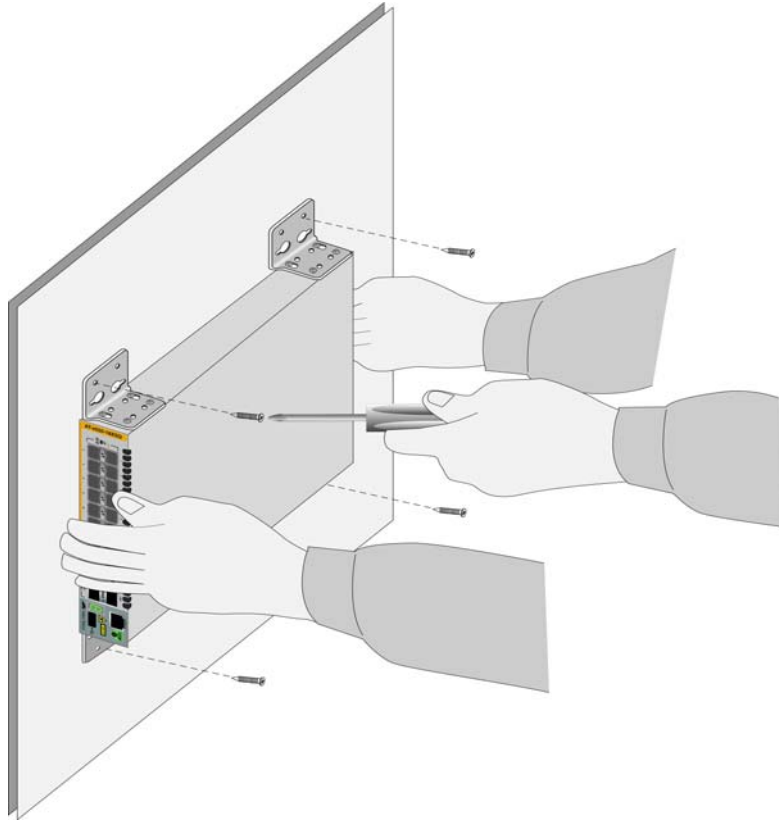

Figure 38. Installing the Switch on a Concrete Wall
7. Have another person hold the switch at the selected wall location while you secure it to the wall with the four M4x32mm provided screws. Refer to Figure 38 on page 75.